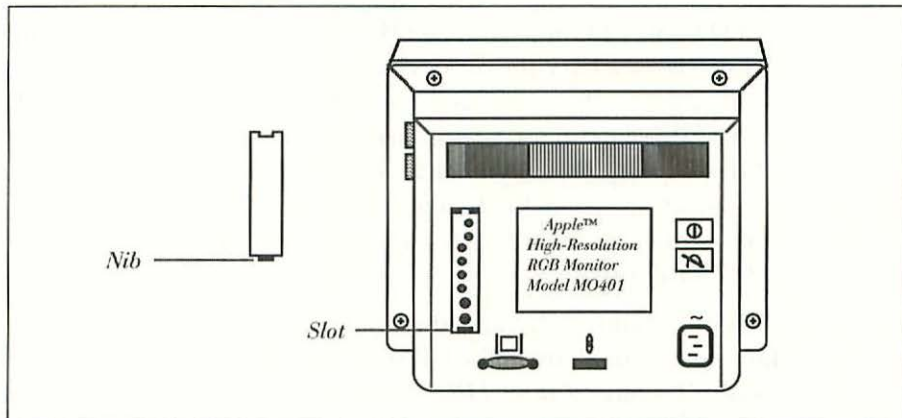

Figure 3-14 Control cover plate reinstallation details.
Once the width, the height, the focus, and the contrast are adjusted, it's time to replace the control cover plate. Insert the nib at the bottom of the plate into the slot at the bottom of the control panel and push the plate toward the monitor as shown in Figure 3-14. With very little effort, the
6. Replace the control cover plate, as shown in Figure 3-14, and you're all done.